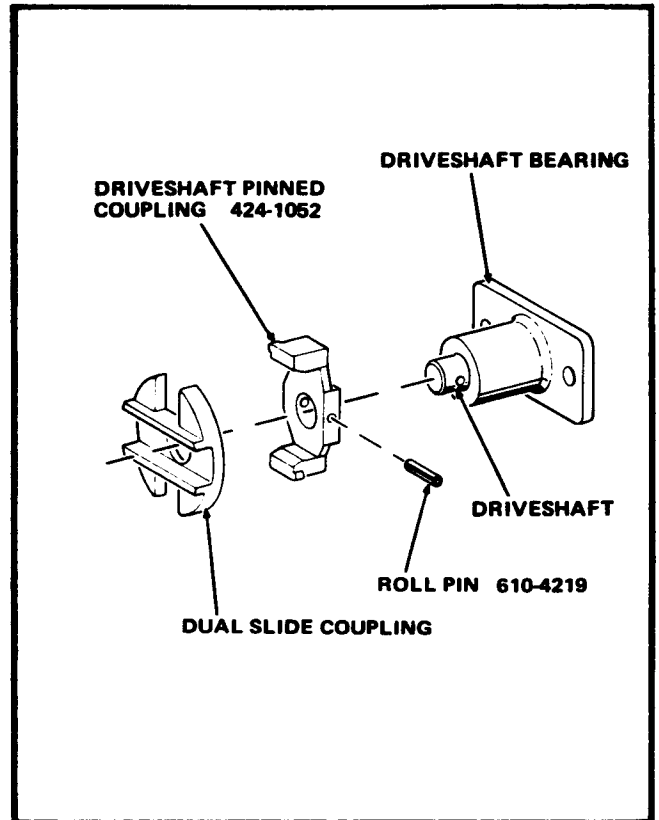

FIGURE 20
1. Place the Dual Slide Coupling, removed in Step A-9, inside of the Driveshaft Pinned Coupling, Part Number 424-1052, included in the Kit, as shown in Figure 20.
2. With the Driveshaft Bearing in place on the Driveshaft, position the Dual Slide Coupling and the Driveshaft Pinned Coupling on the Driveshaft so that the hole in the Driveshaft Pinned Coupling is aligned with the hole in the Driveshaft. See Figure 20.
3. Using a 3/32" Pin Punch, insert the Roll Pin, Part Number 610-4219, included in the Kit, through the holes in the Driveshaft Pinned Coupling and the Driveshaft. Make sure that the Roll Pin is driven flush with the surface of the Driveshaft Pinned Coupling. See Figure 20.